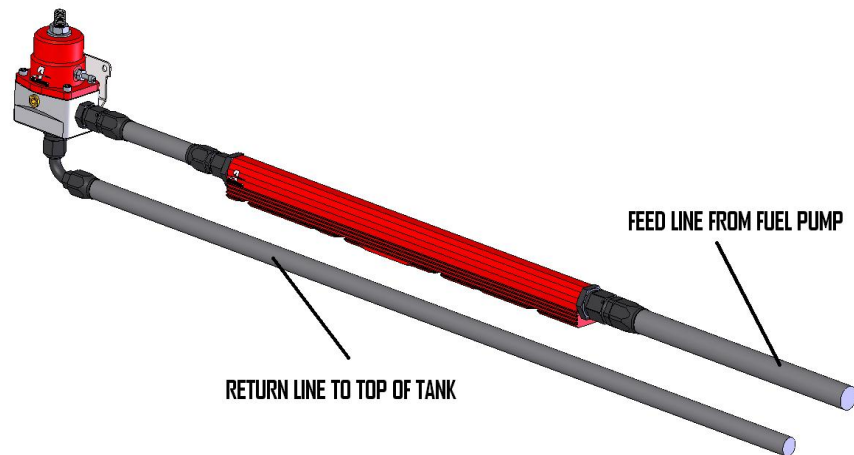

FIGURE 1-3
7. Attach the fuel line(s) from the fuel rail outlet port(s) to the regulator **side** ports using AN-10 (AN-06 if regulator is Aeromotive P/N 13109 or 13159) style fittings and o-rings. If only one inlet/outlet port is required (see figure 1-3 below) install an AN-10 style port plug with o-ring (AN-06 if regulator is Aeromotive P/N 13109 or 13159) into the unused port.
(figure 1-3) is optimum for single rail fuel rail applications equipped with both inlet and outlet ports.